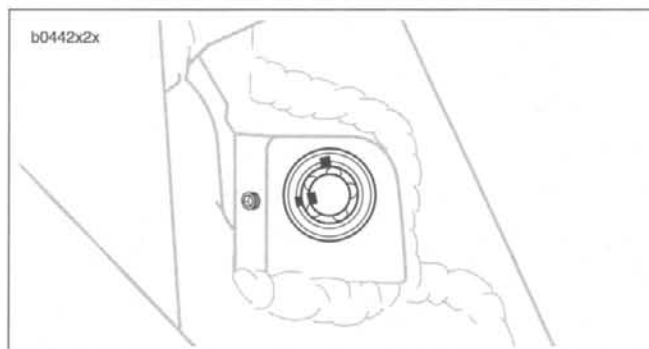

Figure 2-109. Set Screw
6. See Figure 2-109. Remove set screw behind lock.
- c. See Figure 2-109. Lock must be in the unlocked position to install. Insert lock with key openings positioned as shown.